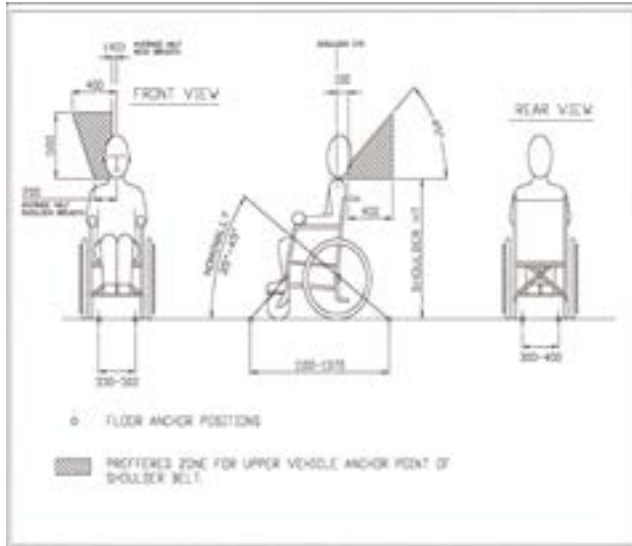

Figure 2
- A height provision (HHT) ranging from 1000mm to 1550mm should be made, depending on the size of the passenger. There should also be 200mm of clear space either side of the wheelchair centre line. If these clear space dimensions cannot be provided then any should be adequately padded and comply with impact performance requirements of ECE Regulation 21 'FMVSS 201'. All vehicle padding should comply with the flammability requirements of ECE Regulation 118 'FMVSS 302'. Guidance positions are shown in Fig. 2.
1. Mark out the chosen floor anchor points, guidance positions are shown in Fig 2. Using a 25mm diameter hole saw and pilot drill arbour, or equivalent, cut through the finished floor, ply and steel flooring.
3. Clear debris and install the floor anchors, orientated as shown in Fig 2. Tighten to 30 Nm (Newton metres) from underneath using the nut, washer and under floor spreader plate (if applicable). **Note:** A special Solo wrench is available to hold the floor anchor whilst applying the locking torque. Please contact our Sales Office for details.